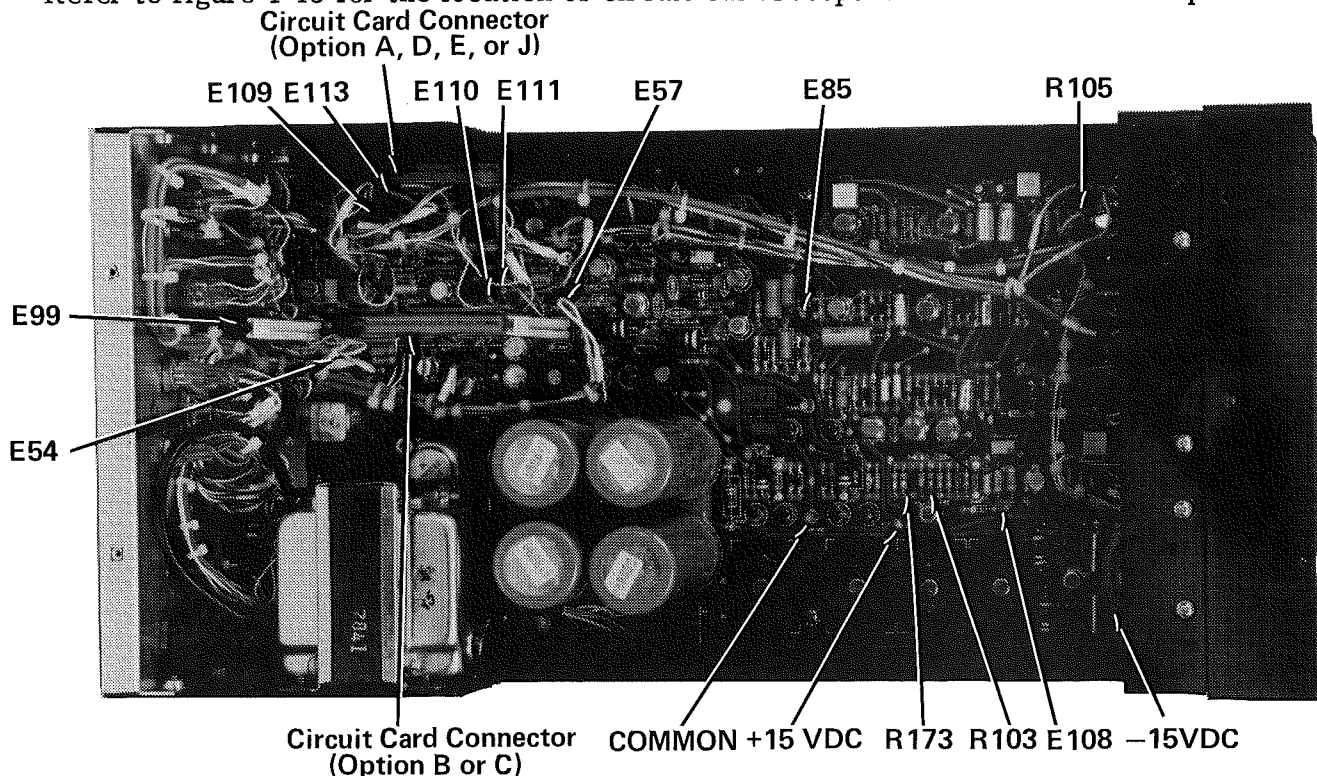

Figure 4-15. Internal 406.11 Controller (Top View)
Refer to figure 4-15 for the location of circuit card receptacles and modification points.
2. Insert the module circuit card into the circuit card receptacle at the rear of the controller chassis (refer to figure 4-15). Ensure the circuit card is firmly inserted in the receptacle.
The Δ P stabilization (option B) or the reset integrator/null detector (option C) circuit card is installed by inserting it into the circuit card receptacle in the center rear portion of the chassis (refer to figure 4-15) with the component side facing toward the right hand side of the controller when viewed from the front. No additional wiring is required.
2. Insert the module circuit card into the circuit card receptacle at the rear of the chassis (refer to figure 4-15). Ensure the circuit card is firmly inserted.